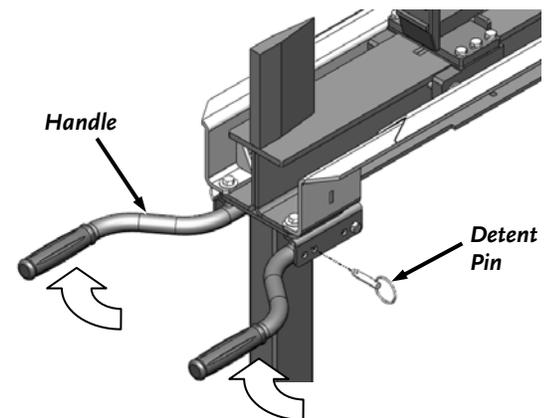

Figure 5
- Rotate the Handles up and lock them into position with the Detent Pins from the Product Package (**Figure 5**).